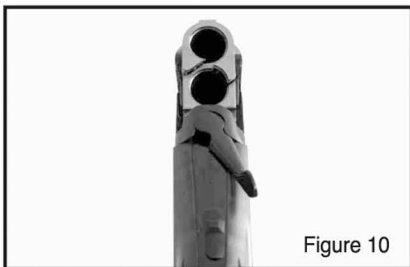

Figure 10
- When you inspect your shotgun you should first check for yourself to ensure that it is unloaded. To do this, open the action and look into the barrel from the breech end and make sure there are no shells in the chamber (figure 10).